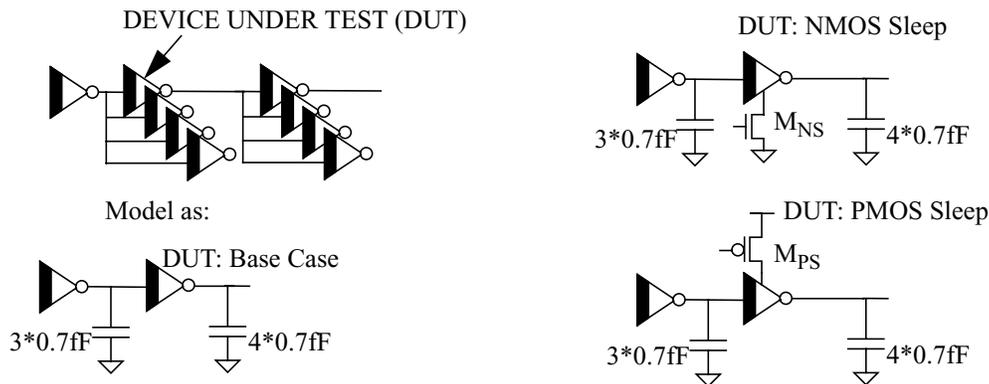

Figure 1: A driver circuit schematic
a) For the circuits in Figure 1, use HSPICE to find a size for M_{NS} and another for M_{PS} such that the inverters only see